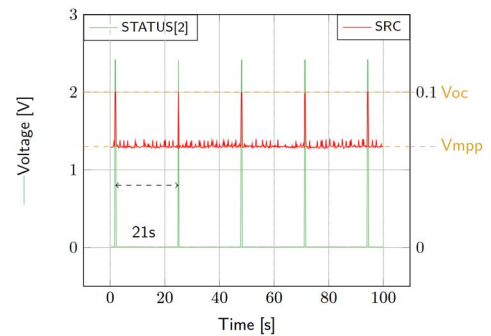

Figure 4: **SRC** and **STATUS[2]** while energy is extracted from **SRC** (**BATT** under V_{OVCH})
- **SRC**: Regulated at V_{MPP} , which is a voltage equal to the open-circuit voltage (V_{OC}) times the MPP ratio defined in Table 4. V_{SRC} equals V_{OC} during MPP evaluation (see Figure 4). Note that V_{src} must be higher than 380 mV to coldstart.
- **STATUS[2]**: Asserted each time the AEM20940 performs a MPP evaluation (See Figure 4).